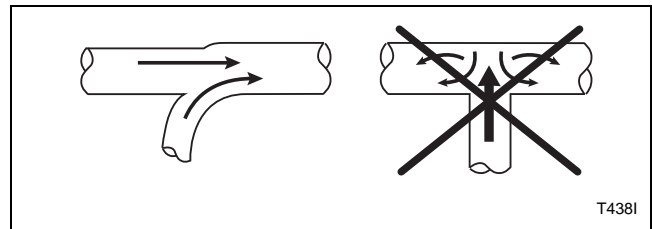

Figure 18
**NOTE:** Never connect a tumble dryer duct at a 90° angle to the collector duct. Refer to *Figure 18*. Doing so will cause excessive back pressure, resulting in poor performance. Never connect two tumble dryer exhaust ducts directly across from each other at the point of entry to the collector duct.